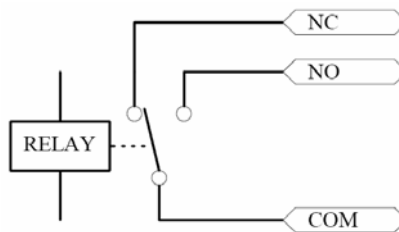

Figure 2
2. **Electric lock interface (See Figure 2)**
Reset Non Volatile Memory by switching of the power and placing the jumper connector onto the pins 1 & 2 as per figure 2. After switching power on remove jumper, the SAM-1000 will give a beep and is now reset to factory default values.